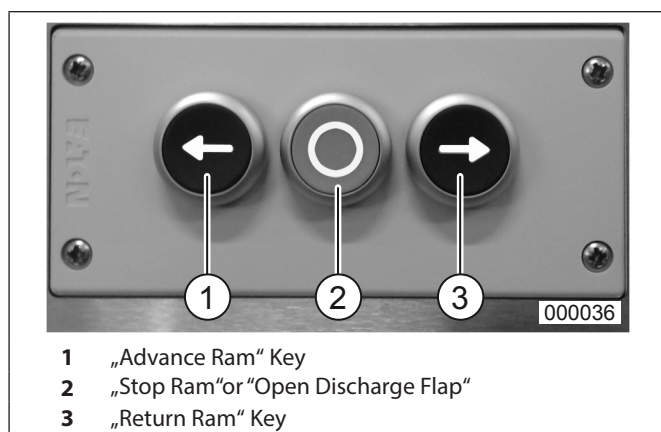

fig. 12 Operating elements baler
The discharge flap can only be opened after this key (fig. 12/2) has been activated.
Non-confidential materials can also be fed manually to the baler. Return the baling ram to its rear, home position if necessary (close the inlet flap and press the "Return Ram" key (fig. 12/3)) and proceed as follows:
3. Close the inlet flap and activate the „Advance Ram“ Key (fig. 12/1).